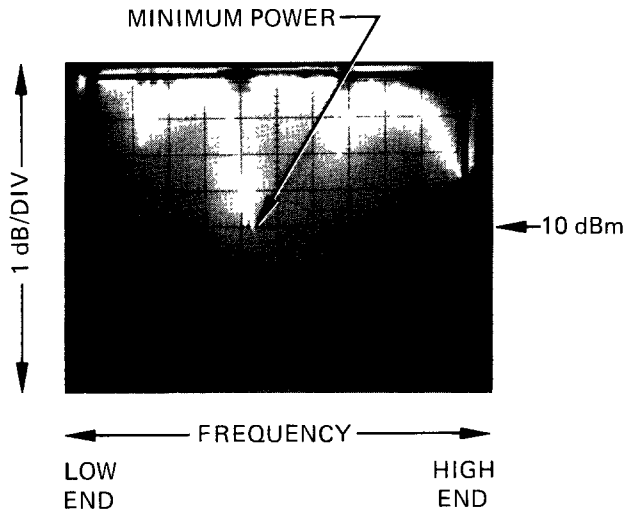

Figure 4-6. Unleveled Power
- e. On 560, adjust CHANNEL A OFFSET control to position the trace's minimum power point on the center graticule line; see Figure 4-6.